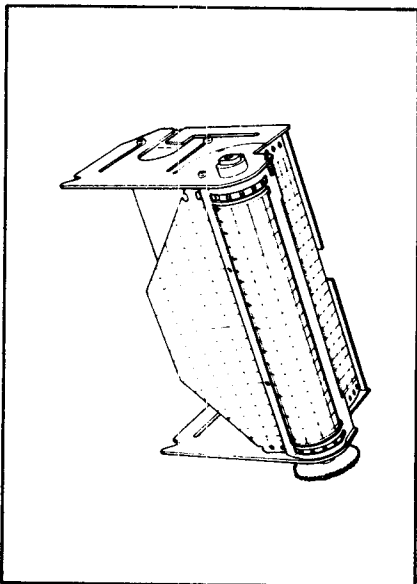

Figure 3-5.
- (3) Lay the cardboard supplied with the chart in the chart compartment.
- (4) Load the Z-fold chart into the chart compartment as shown in Figure 3-5. Thread the chart under the chart guide roller shaft. Chart drive holes are round at the right and elliptical at the left. Make these drive holes with the sprockets.
- (5) Reinstall the chart compartment into the recorder frame. Turn the chart compartment down ward to its original position while pressing the chart compartment lock release lever out-ward (left).